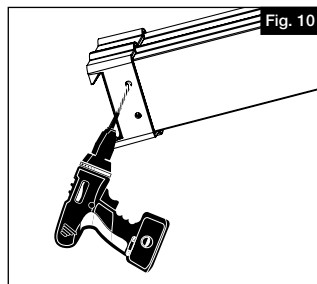

Fig. 10
- a. For bottom rail, pre-drill two holes underneath bracket with a  $\frac{5}{32}$ " drill bit (2 per bracket) (Fig. 10).